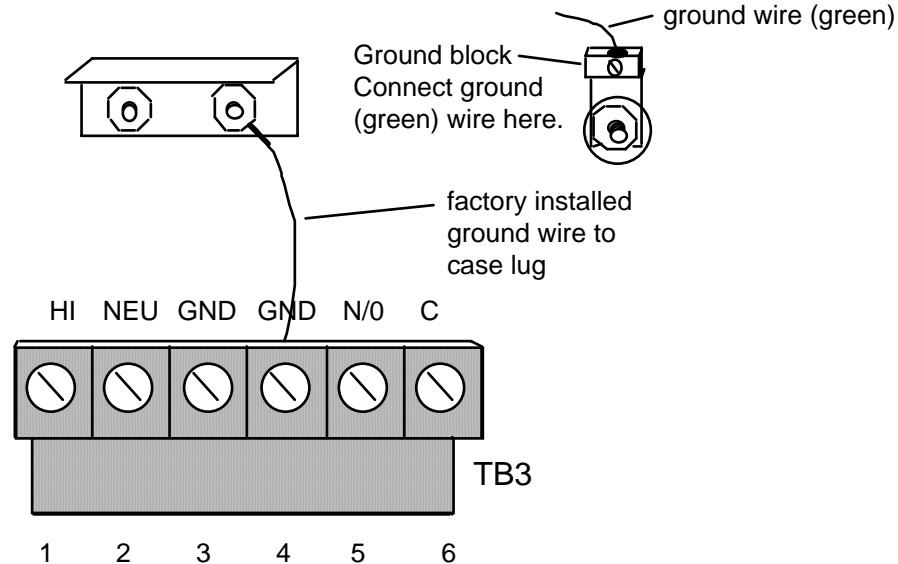
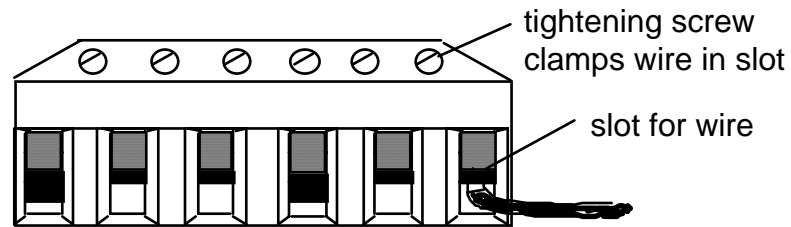

Figure 2-3. Wiring connector and ground block for AC power and stop circuit.
Figure 2-4. Inserting wires into connector
- First connect the ground (green or green/yellow) wire. It must be connected to the ground block as shown in Figure 2-3, not to "GND" terminal on the connector. The ground block is located on the wall of the box at top right. To connect to ground block, strip ground wire about 1/4" (6.4 mm) from end, loosen screw on block, slide wire in hole, and tighten screw to pin wire in place.
NOTE: A ground wire is attached from the connector to a case lug as shown in Figure 2-3. Leave the ground wire attached to the connector while making connections. *If you remove this wire in order to pull the connector all the way out of the box, be sure to replace it when done.*
- Connect wires to the L-shaped terminal block as shown in Figure 2-3. For 115 Vac, connect black wire to HI slot and white wire to NEU. (For 230 Vac connect black wire to HI slot and red wire to NEU). To connect a wire, find the correct slot and loosen the screw over that slot by turning it counterclockwise (see Figure 2-4). Strip the correct wire for this slot 1/4" (6.4 mm) from end. Insert bare wire into slot 90% of the way. Tighten the screw. The metal tooth inside the slot will clamp down on the bare wire for a tight connection. Make sure the metal tooth is clamped down on the bare part of the wire, not on the insulation. If it is on the insulation, you will have a bad connection.
10. Plug connector back into its terminal. Double check connections with markings at the connector base to make sure you did not wire it backwards. (Note: first "GND" from left in Figure 2-3 is not used).